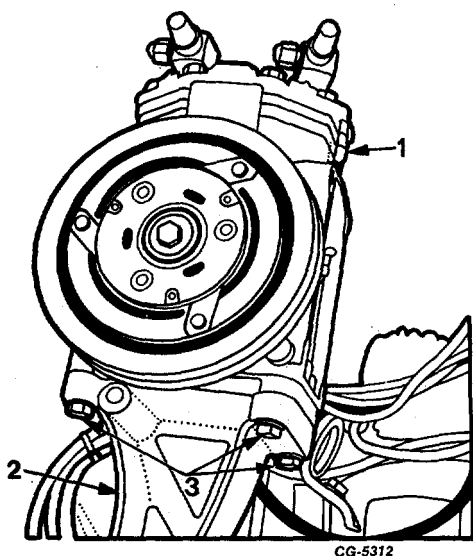

Fig. 19 Freon Compressor Removal
15. Remove freon compressor from bracket by removing four bolts and lockwashers, Figure 19.